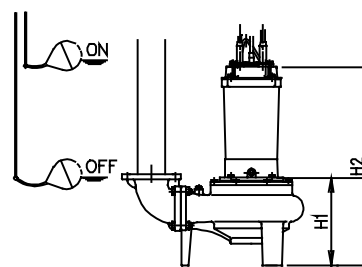

Fig.3
- 7) Manual type pumps do not have an automatic operating system based on built-in floats. Do not operate the pump above ten minutes with the water level near the minimum operating level as the automatic cut-off switch incorporated inside the motor will be activated. To avoid dry operation, install an automatic operating system, as shown in Fig.3.